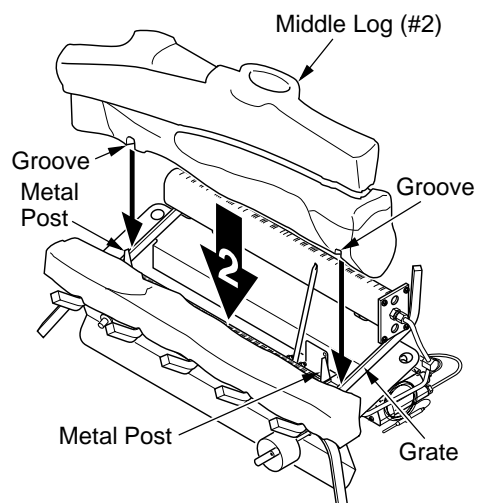

Figure 22 - Installing Middle Log (#2) [18" Variable Manually-Controlled Set Shown]
2. Rest middle log (#2) behind metal posts on front burner. Make sure the grooves in the bottom of the log fit over the grate. Bring the log forward next to the metal posts. The cutout in the middle log must be on top (see Figure 22, page 15).